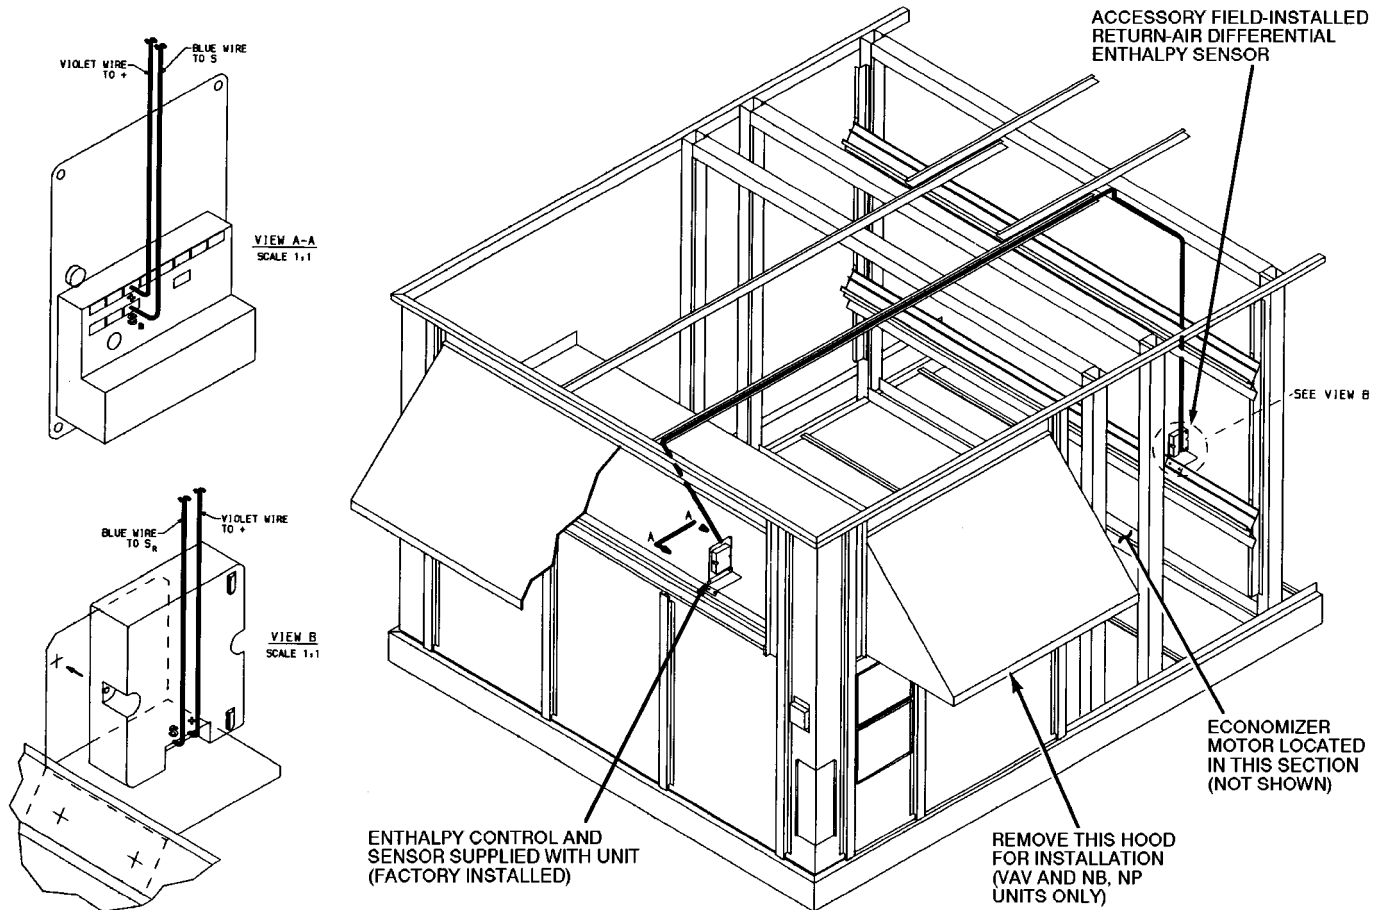

Fig. 10 — Differential Enthalpy Control Wiring Detail
4. Remove return-air enthalpy sensor from accessory package. Using screws provided, attach sensor to factory-installed bracket on filter track. See Fig. 10.
1. Remove economizer hood (if hoods are already installed) from one side of unit to gain access to enthalpy control and outdoor-air section of unit. See Fig. 10.
5. Route wires to filter section as shown in Fig. 10, using wire ties to attach to existing wires.
5. Route wires as shown in Fig. 10, using wire ties to attach to existing wires.